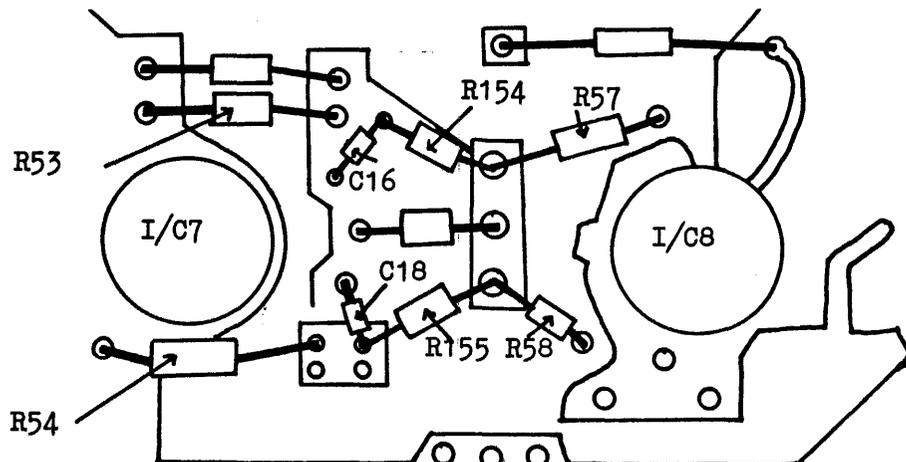

FIGURE 4.
9. Remove R53, R54, R57, R58, R154, R155, C13, C16, C17 C18 as shown in figure 4.